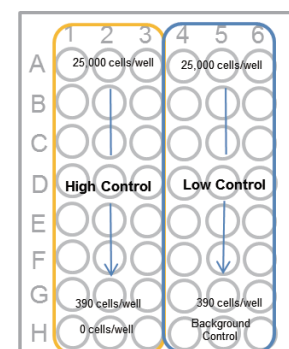

Fig. 2 Plate arrangement
- 3) Prepare 2-fold serial dilution of each well in triplicate set of wells for the high-control, low-control and background control (medium only) (Refer to Fig.2 for the plate arrangement).
- 3) Prepare 2-fold serial dilution of each well in triplicate set of wells for the high-control, low-control and background control (medium only) (Refer to Fig. 2 for the plate arrangement).